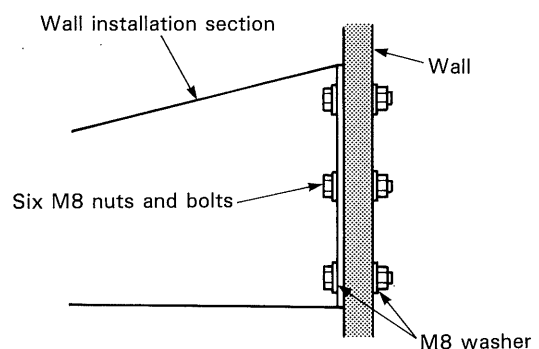

Figure 2
- 2** After removing the nut and bolt that hold the two sections of the bracket together, use six sets of M8 bolts and nuts and 12 washers to install the wall installation fixture on an adequately strong wall. Tighten the nuts and bolts firmly. (Figure 2) Always double check that the wall is strong enough to handle the weight of the speaker and the bracket. We recommend that the wall bracket be installed during construction of the structure or room. If the bracket is to be installed on an existing wall, additional construction will be necessary. Please consult a carpenter or other qualified professional and check the wall's construction making sure that it is adequately strong.